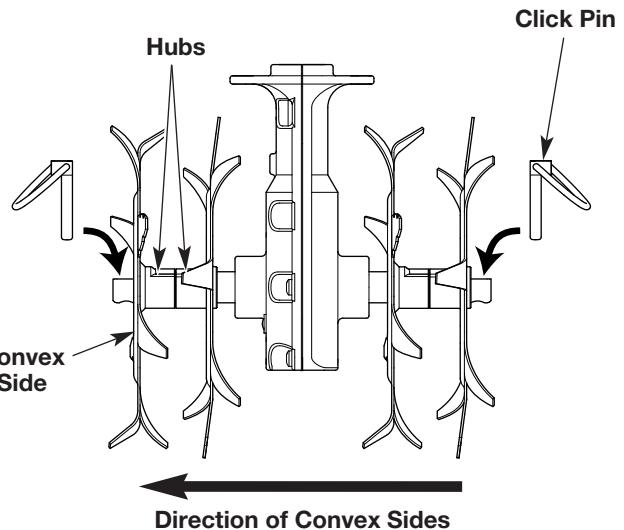

Fig. 9
2. Remove the click pin from each end of the tine shaft. Slide the tines off of the shaft (Fig. 9).
4. Slide on the new tines with the hubs facing each other (Fig. 9).
**NOTE:** Each tine has a convex side. Make sure that all of the convex sides are facing as shown in Figure 9.